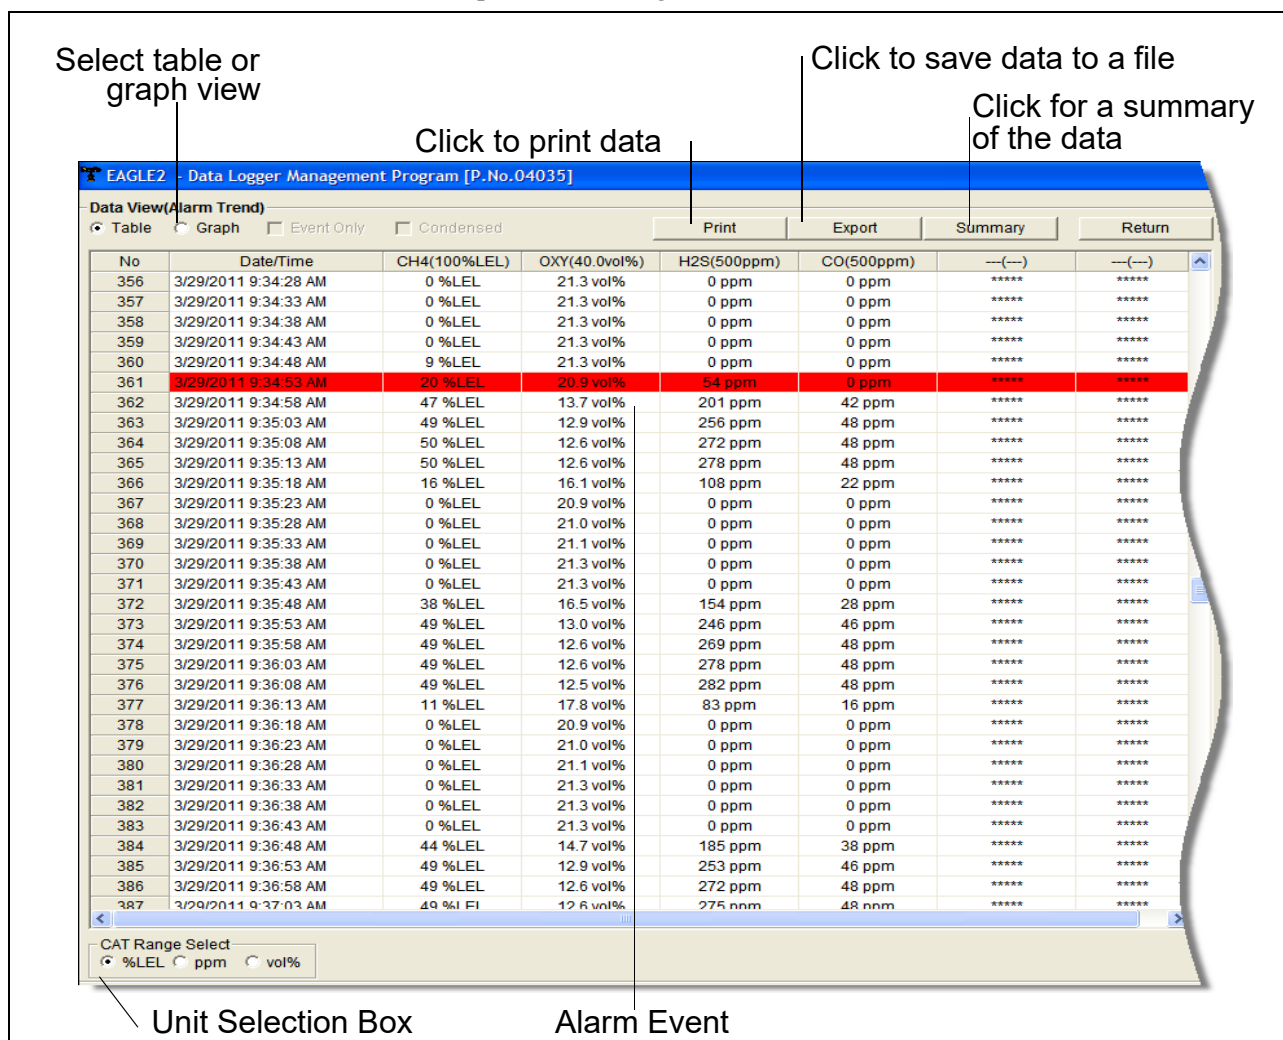

Figure 32: Alarm Trend Data in Table Format
- Alarm trend data can be viewed in either table or graph format by selecting the Table or Graph selection buttons. The example below in Figure 32 is in table format.